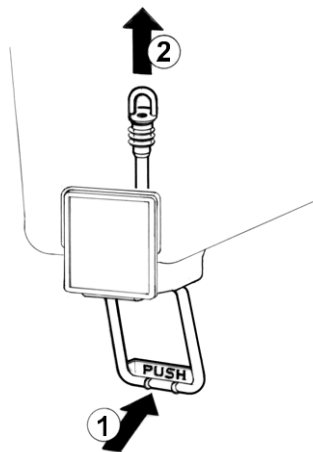

figure 2
take the pinch tube off from its seat (2) (see figure 2).